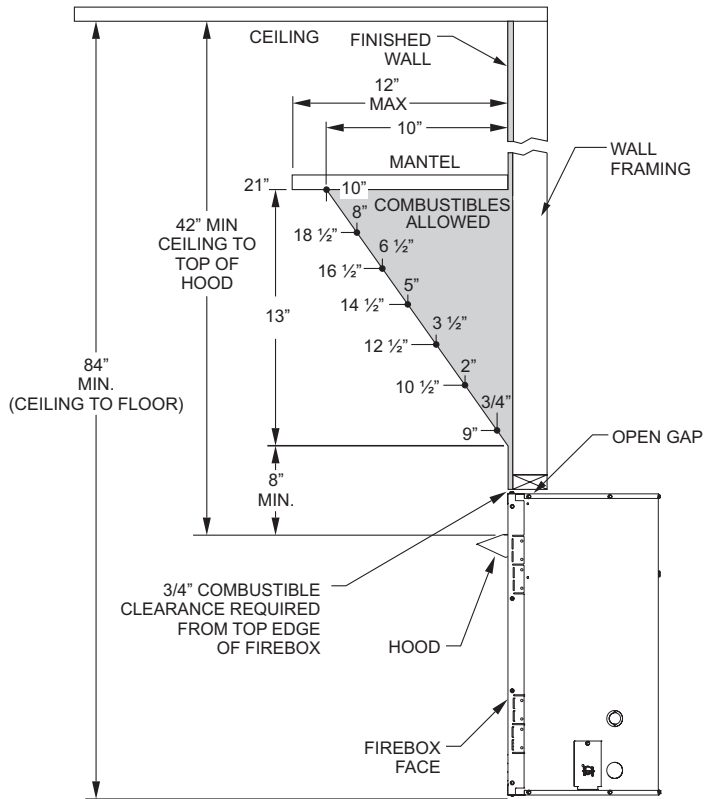

Figure 3 - Clearances to Combustibles
**Ceiling Clearances:** The ceiling height should not be less than 42 inches from the top of the hood. See Figure 3.